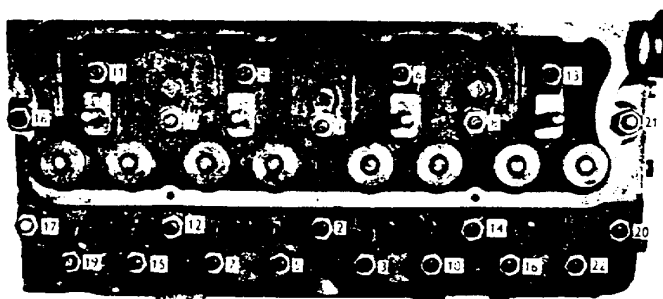

Fig. E.11. Cylinder Head Nut Tightening Sequence.
2. Place the cylinder head in position on the cylinder block. Lightly oil threads and tighten nuts/setscrews progressively (in 3 stages) in the order shown in Fig. E.11 to a torque of 100 lb ft (13,8 kgf m) — 136 Nm. The final stage should be repeated to ensure that no loss of tension has occurred earlier in the tightening sequence.
18. Run the engine until normal operating temperature is attained and retighten the cylinder head nuts/setscrews, in sequence Fig. E.11, and to the correct torque as given on Page B.)
After the first 25/50 hours running, the rocker assembly should be removed and the cylinder head nuts/setscrews again retightened to the correct torque and the sequence shown in Fig. E.11. Ensure the correct procedure is followed as in above 18. Replace rocker assembly and set valve clearance to 0.012 in (0.30 mm) with the engine cold.